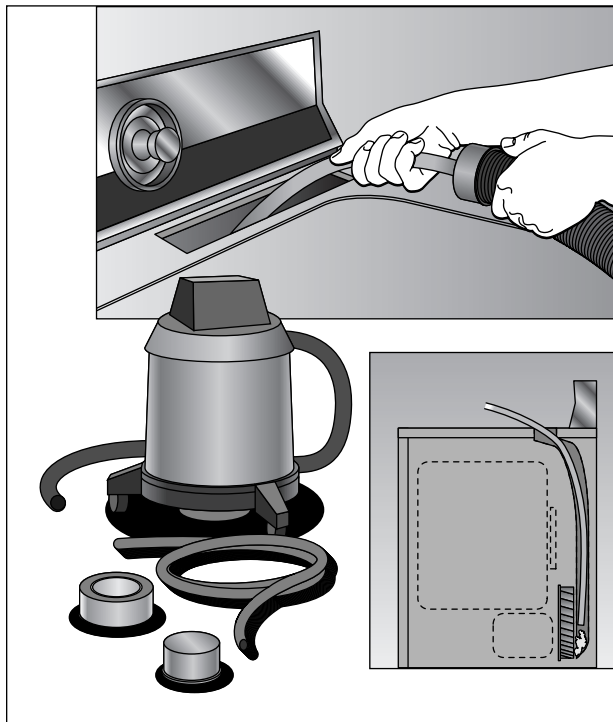

Figure 14-1:
- ✓ **Remove lint that accumulates at the bottom of the housing that contains the lint screen.** Construct a mini vacuum hose attachment using a short piece of rubber hose, the cap to an aerosol can, and some duct tape. The cap acts as an adapter that fits over the end of a wet/dry vacuum hose. Make a hole in the center of the cap the size of the outside diameter of the hose. Insert the hose snugly into the hole and attach the two with duct tape. Attach the cap to the end of a wet/dry vacuum and insert the hose into the filter housing until it reaches the bottom (see Figure 14-1).